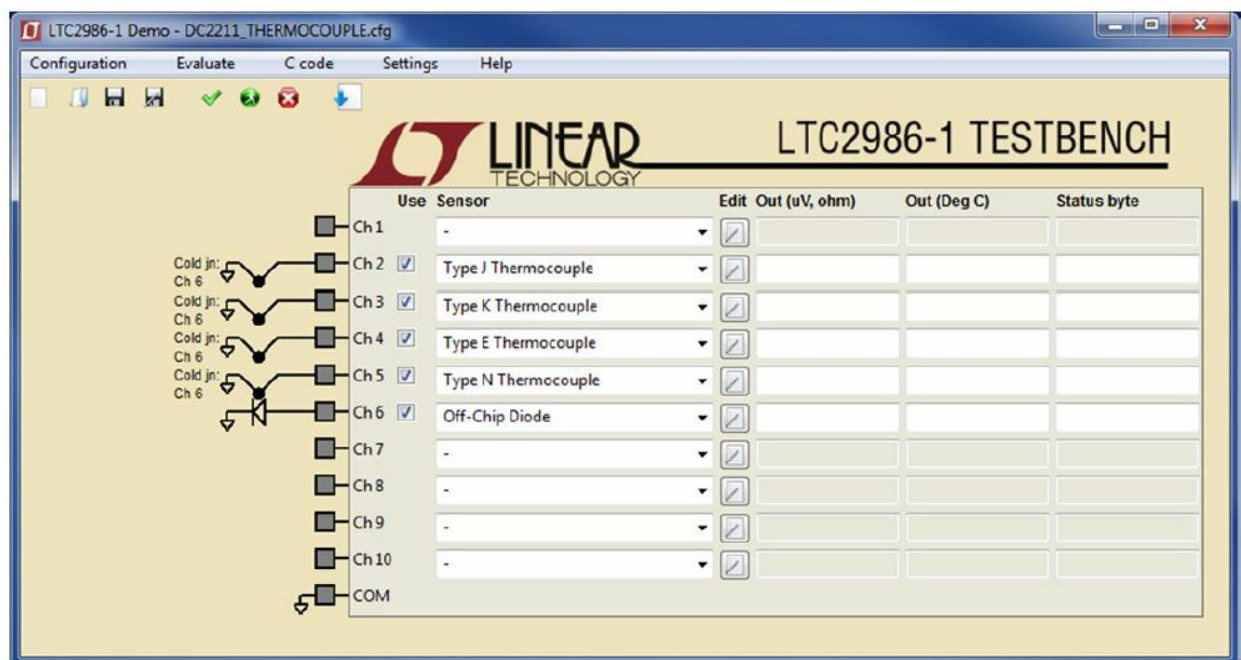

Figure 8a. DC2211 Four Thermocouple Software Configuration
- Four thermocouples connected to positions A-D with the negative connections tied to positions E-H using the onboard diode as a cold junction sensor (see Figure 7a for the schematic and Figure 8a for the corresponding software configuration).